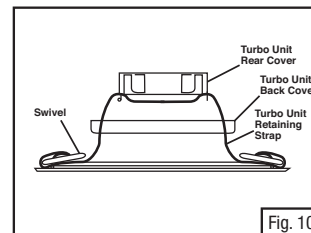

Fig. 10
7. Ensure that the turbo motor blower unit is cinched down tightly (Fig. 10).